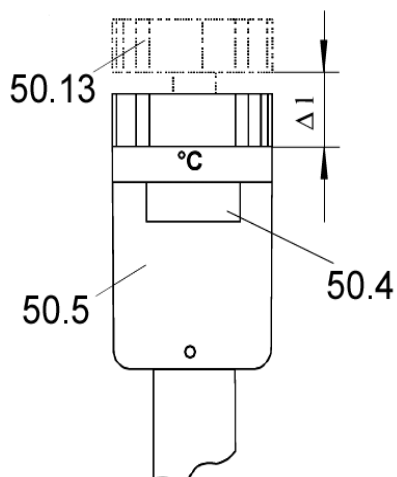

Fig. 7: Excess temperature indicator
- The temperature setting is done through turning the setting ring (pos. 50.13). The body (pos. 50.5) must be held fast; it is not allowed to turn.
This can be seen when the setting ring (pos. 50.13) has moved upwards from the body (Fig. 7) (pos. 50.5). In this case, the temperature regulation must be waited for, before further alterations are done. Excess responses from the indicator shortens the lifetime from the thermal controller!